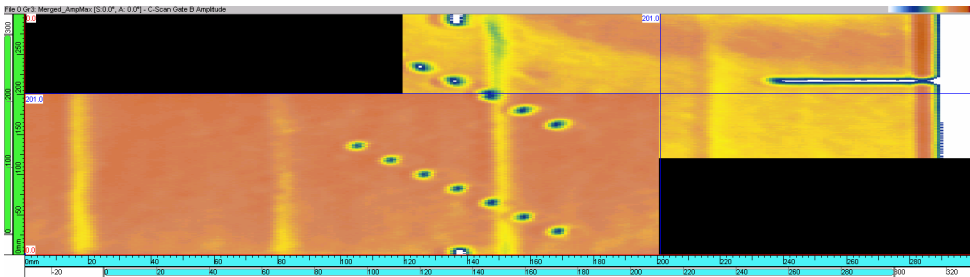

Figure 7-24 Two files merge example
- Merge multiple C-scan images from different data files (see Figure 7-24 on page 364).